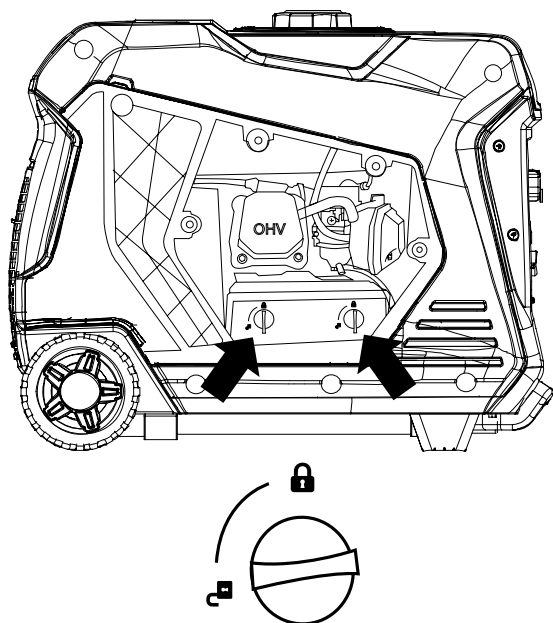

Figure 12: Unlock air filter cover
3. Turn the 2 knobs on the air cleaner to unlock the cover. Tip the cover down to access the foam element (see Figure 12).